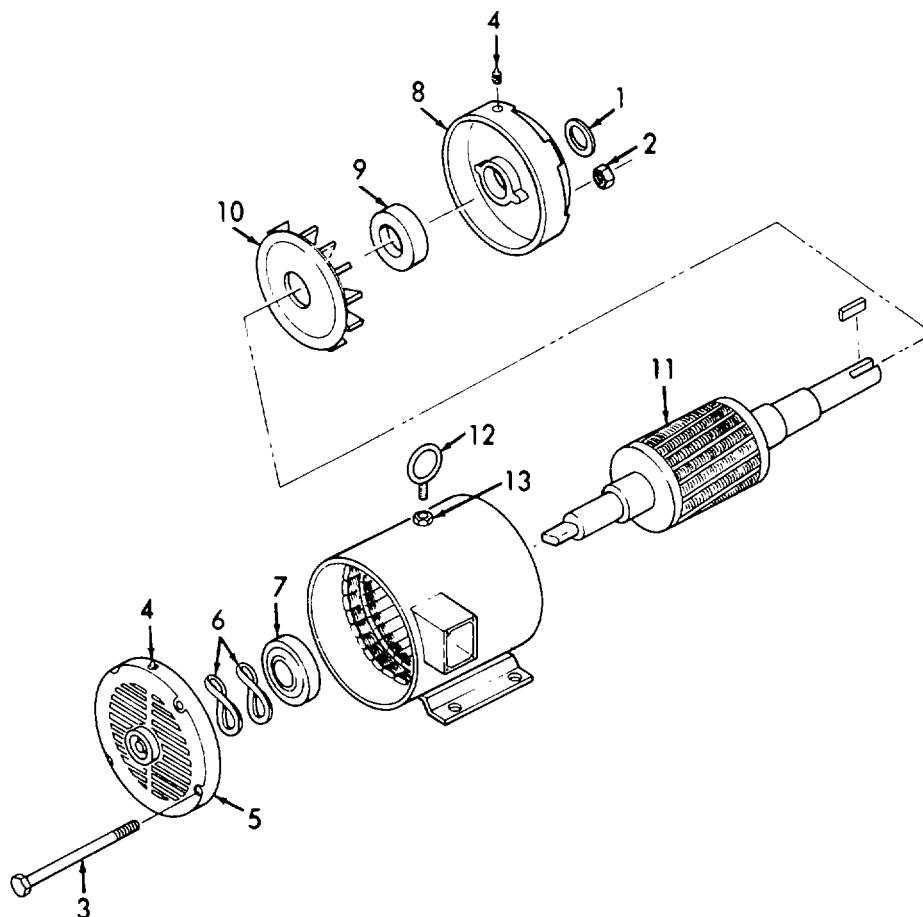

Figure 4-8. Electric Motor, Disassembly.
a. *Disassembly.* (Refer to Figure 4-8).